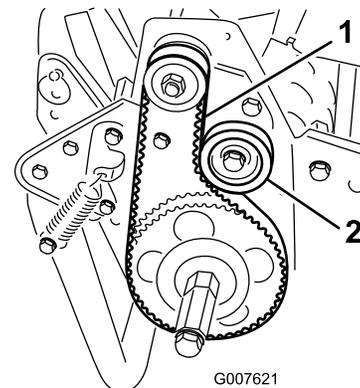

Figure 37
2. Check the tension by pressing the belt at mid span of the pulleys (Figure 37) with 18 to 22 N (4 to 5 lb) of force.
- A. Loosen the idler-pulley mounting nut and pivot the idler pulley clockwise against the backside of the belt until the desired belt tension is attained (Figure 37).